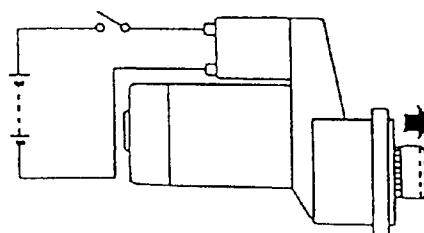

Figure 11-33
- Turn the switch ON and measure the pinion moving distance L in the thrust direction (**Figure 11-33**). Perform this test within 10 seconds. See *Starter Motor Specifications on page 11-7 for the service limit.*